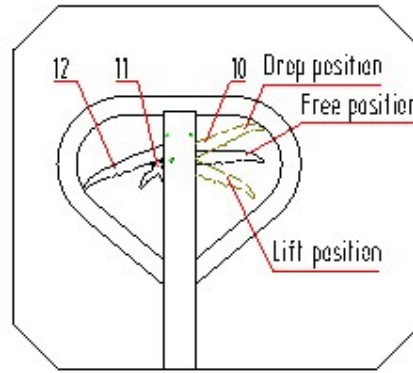

Fig.5
- 4.1 After the truck is assembled, try to rock the hand grip and operate different positions of control handle knob 10 to examine the lifting, free position and dropping and check that whether the different positions are normal or not. See fig 5.
- 5.3 See fig 5, when hand knob 10 is placed on the lift position, the truck will be in a state of lift. At this time, if you rock the hand grip, the truck will be lifted.
- 5.4 See fig 5, when hand knob 10 is placed on the free position, the truck will travel. At this time, if you rock the hand grip, the truck will neither lift nor drop. Then, you can use the truck to move the cargo.
- 5.5 See fig 5, when the hand knob 10 is placed on the drop position, truck forks will drop. At this time, the truck forks will drop automatically.
- 5.6 See fig 5, when the hand knob 12 is placed blow, the truck will be in a state of free walking.
5.7 See fig 5, when the hand knob 12 is placed above, the truck will be in a state of brake.
5.8 See fig 5, hand knob 11 is used for release brake.